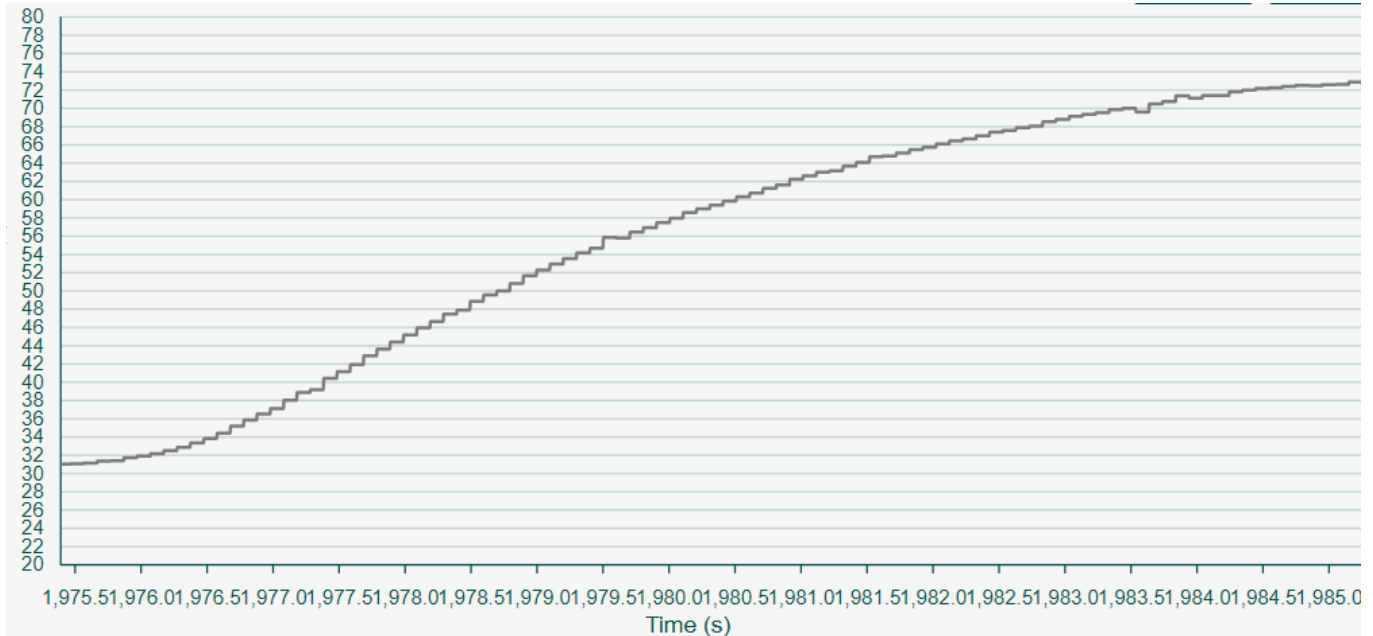

Figure 4
- Figure 4 presents the temperature curve recorded during the testing phase.